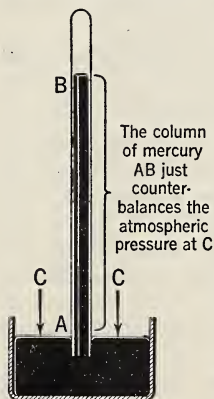

FIG. 61. A Torricellian apparatus.
59. What was Torricelli's experiment? Torricelli suspected that it was the pressure of the surrounding air that *pushed* the water up the tube of the Duke of Tuscany's pump. Hence he reasoned that mercury, which is 13.6 times as dense as water, would be pushed up only $1/13.6$ times as far in an exhausted tube. He took a glass tube about 3 ft. long, closed at one end, and filled it with mercury. Placing his finger over the open end of the tube, he then inverted it in a bowl of mercury. (See Fig. 61.) When he removed his finger from the opening, only a little of the mercury flowed out of the tube. The mercury column, *AB*, stood at a height of about 30 in. above the level of the mercury in the bowl. Thus Torricelli proved that the atmospheric pressure at sea level is just counterbalanced by a column of mercury 30 in. high. It is not strictly correct to say that liquids "rise" in ex-